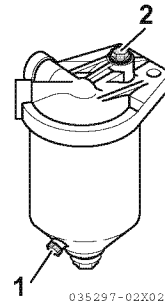

Figure 3
2. Loosen the drain plug (**Figure 3, (1)**) of the water separator and drain off any water or dirt collected inside. Dispose of the collected water and dirt properly.
3. After draining, tighten the air bleed screw (**Figure 3, (2)**).